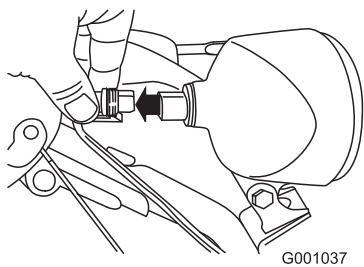

Figure 51
1. Remove the wire connector from the back of the headlight (Figure 51).